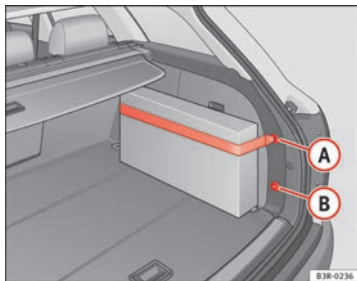

Fig. 118 Retaining strap attached to right-hand side lining
- Hook the retaining strap into housing **A** or **B** ⇒ Fig. 118.